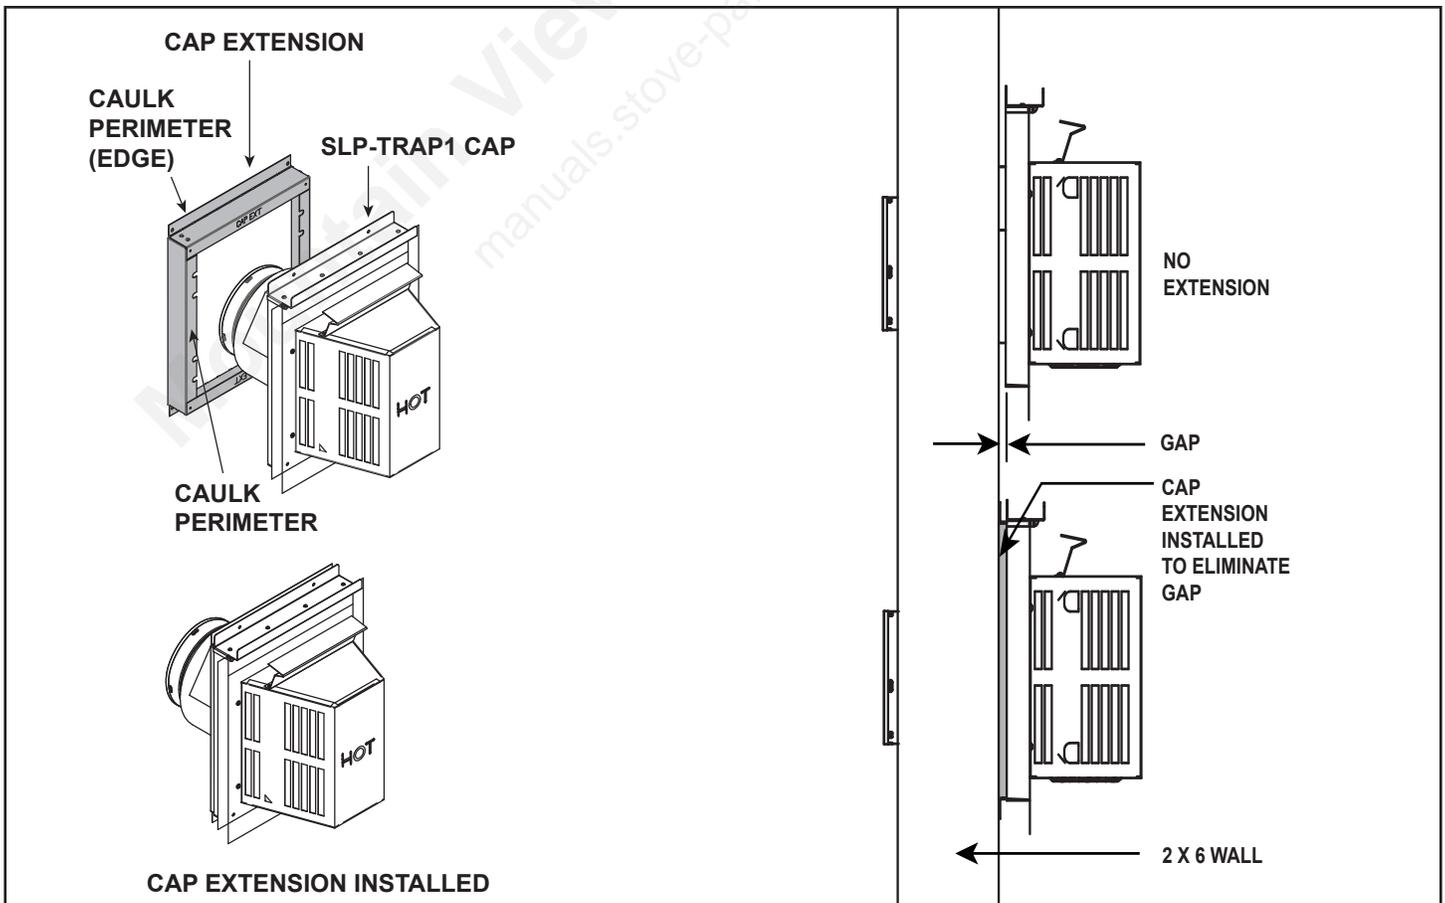

Figure 11.4 Cap Extension Installation
**NOTICE! Install a cap extension if gap exists between the wall and the back of the termination cap. See Figure 11.4. An SLP-TRAP1 will generally be used with In-Wall installations.**
17. Install vent and trap cap extension if a gap exists between the exterior wall and the cap. To prevent drafts, the cap extension should be sealed with caulk that has a minimum of 300°F continuous exposure rating to seal gaps of the extension. See Figure 11.4.